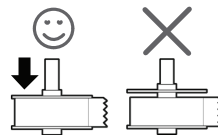

Figure 6
- The label spool guide must be pushed flush against the label roll, with no gap. See Figure 6.
- 5 Slide the spool guide onto the right side of the spool and press the guide tightly against the side of the label roll, **leaving no gap** between the roll and the spool. See Figure 6.